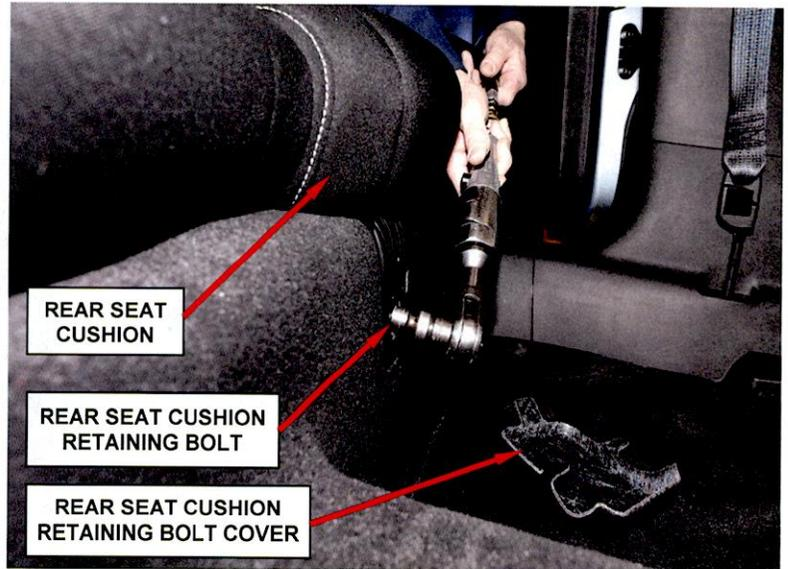

Figure 11 – Rear Seat Cushion Cover and Fasteners
5. Remove and save the right and left side rear seat cushion retaining bolt covers (Figure 11).
6. Remove and save the rear seat cushion retaining bolt bolts (Figure 11).